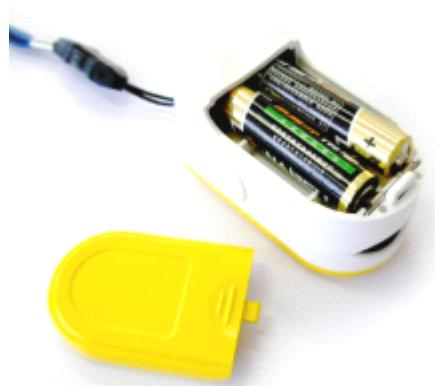

Figure 3.Batteries Installation
Step 1. Refer to Figure 3. and insert the two AAA size batteries properly in the right direction.